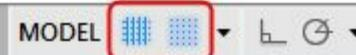

Figure-49. Grid display and snap
- Click on the buttons displayed in Figure-49 to hide the grid and off the grid snap.